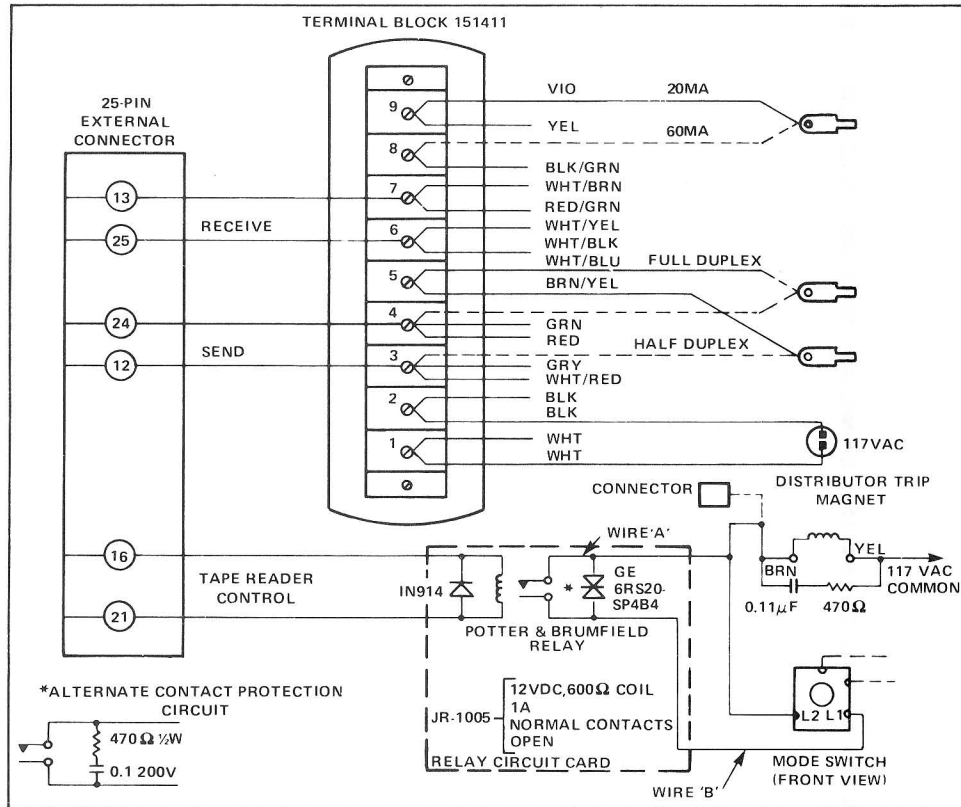
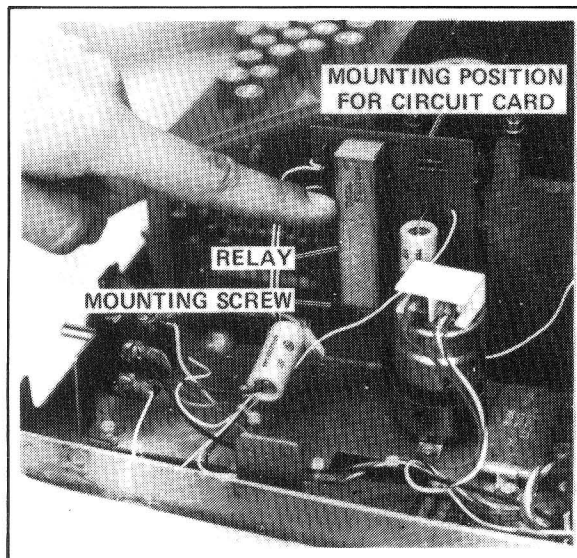
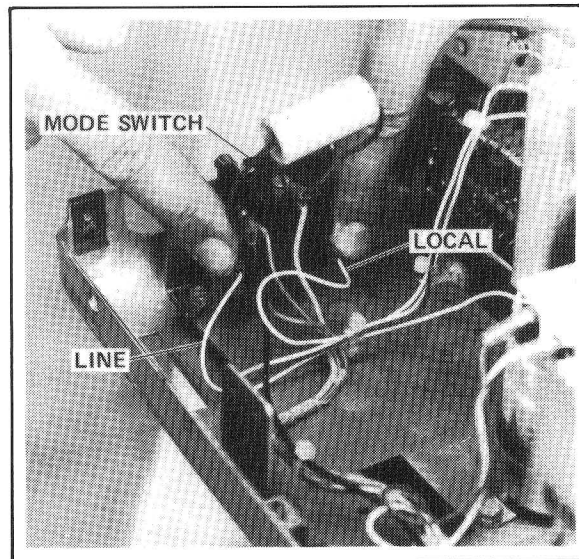

Figure A-4. Teletypewriter Modifications
Figure A-5. Relay Circuit
Figure A-6. Mode Switch
A circuit diagram of the relay circuit card is included in figure A-4; this diagram also includes the part numbers of the relay, diode, and thyrector. (Note that a 470-ohm resistor and a $0.1 \mu\text{F}$ capacitor may be substituted for the thyrector.) After the relay circuit card has been assembled, mount it in position as shown in figure A-5. Secure the card to the base plate using two self-tapping screws. Connect the relay circuit to the distributor trip magnet and mode switch as follows:
- a. Refer to figure A-4 and connect a wire (Wire 'A') from relay circuit card to terminal L2 on mode switch. (See figure A-6.)
- c. Refer to figure A-4 and connect a wire (Wire 'B') from relay circuit board to terminal L1 on mode switch.
Connect a two-wire receive loop, a two-wire send loop, and a two-wire tape reader control loop to the external device as shown in figure A-4. The external connector pin numbers shown in figure A-4 are for interface with an RS232C type, 25-pin connector.